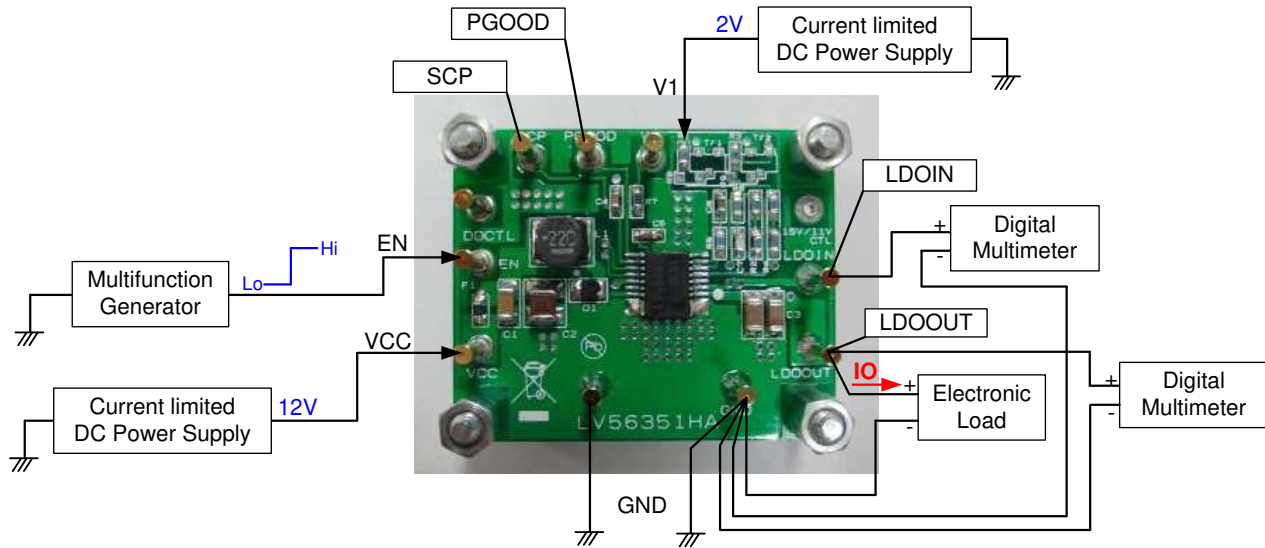

Figure 1: Test Setup
- (1) Connect the test setup as shown in Figure 1
- (2) Apply 12Vdc to VCC.
- (3) Apply 2Vdc to V1.
- (4) Apply Low level (0V) signal to EN.
- (5) Check that LDOIN=0[V] and LDOOUT=0[V].
- (6) Apply IO(load)=0[A] to LDOOUT.
- (7) Apply High level (2V) signal to EN.
- (8) Check that LDOIN=17.5[V] and LDOOUT=16.5[V]
- (9) Set IO to desired level, 0[mA] – 300[mA], and measure LDOOUT voltage and LDOIN voltage.
- (10) Apply Low level signal to EN.
- (11) Turn off IO(load).